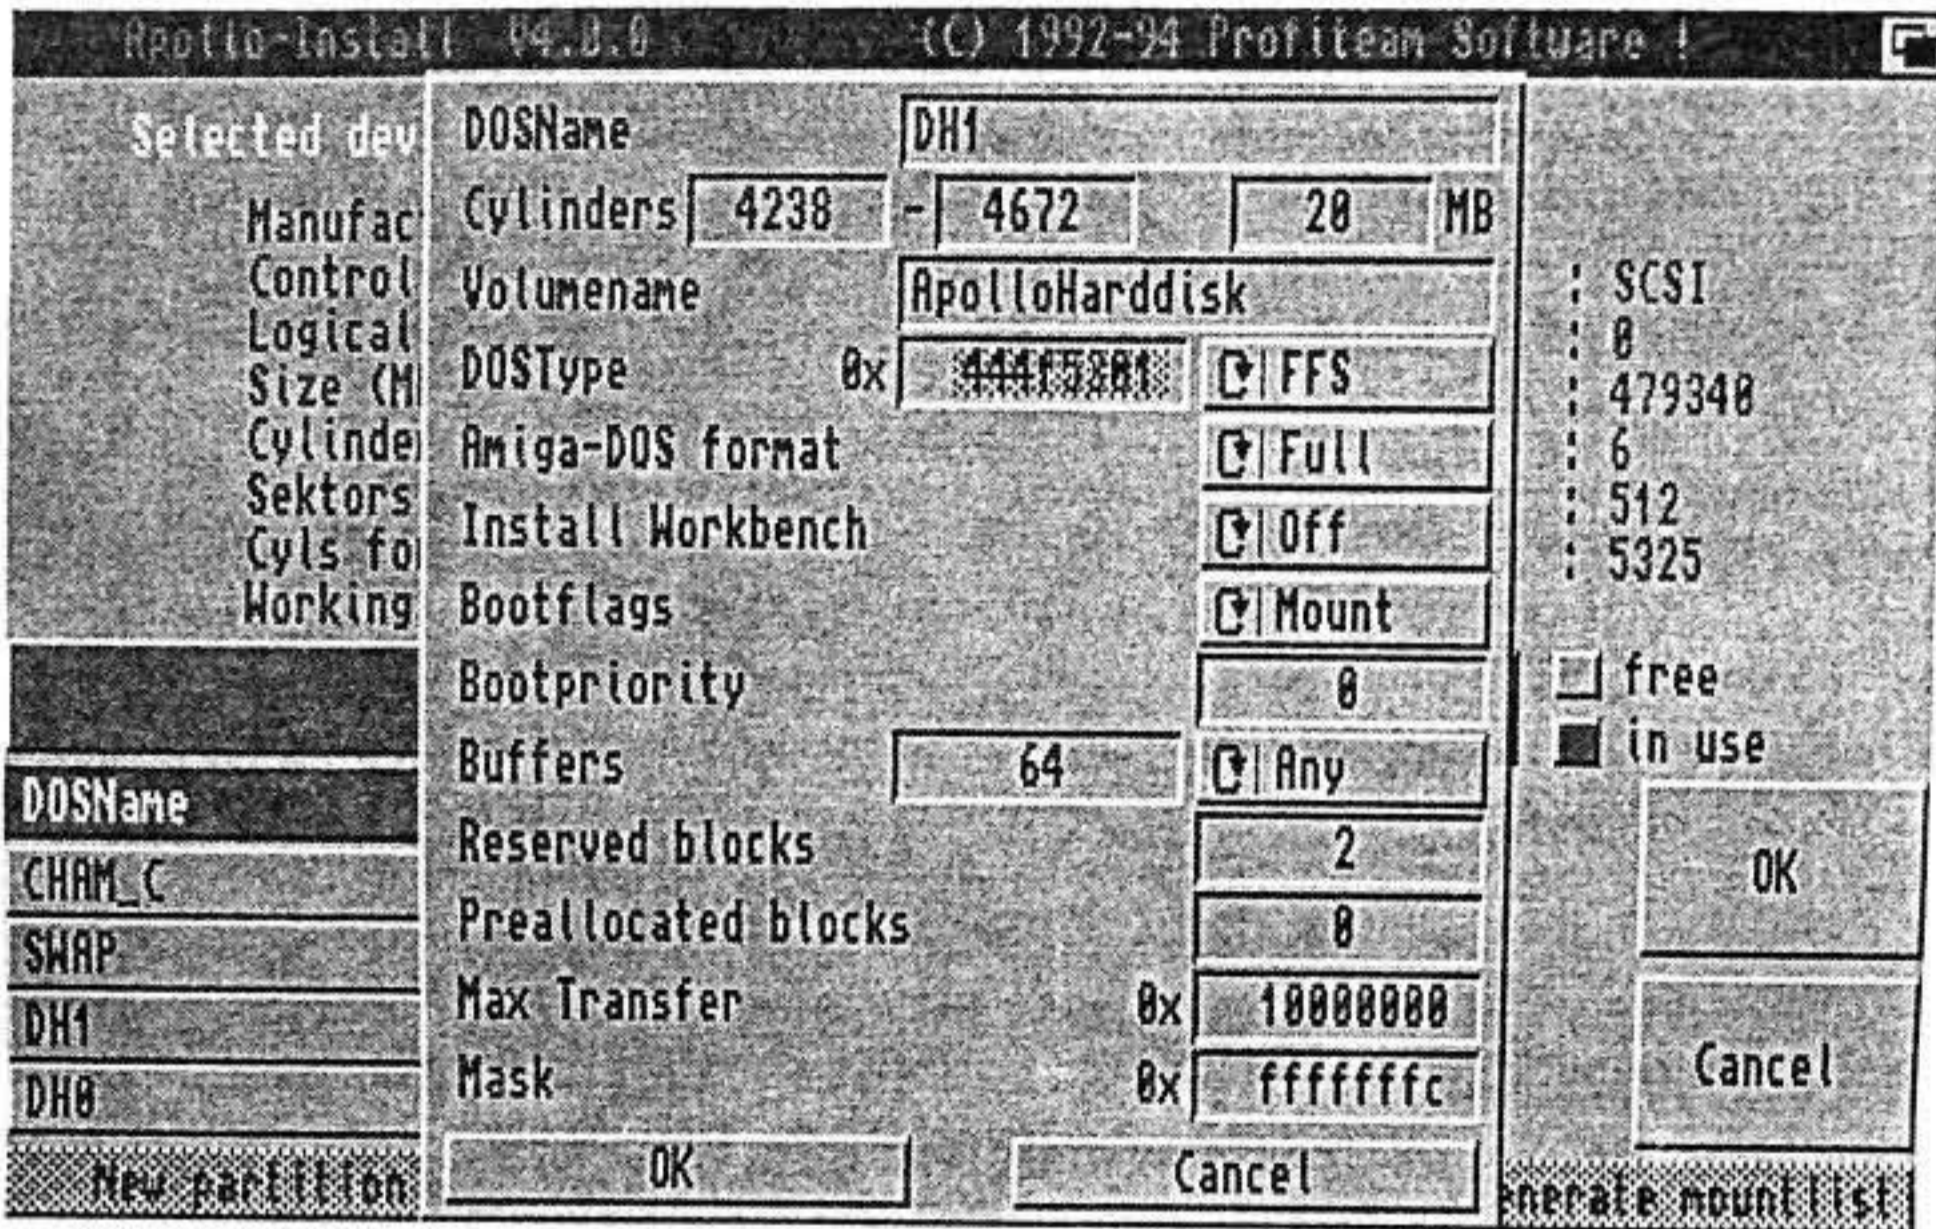

Figure 6: New partition / Edit partition
- Click on the New partition gadget to create a new one. If the disk still holds any free space, a big window opens (see figure 6), in which you can configure all parameters of the partition to create. Every change of the entry fields and switches is checked and immediately rejected in case of containing an illegal value or state. The adjustable parameters are:
the same big window opens as already described above in the explanation of the creation of a new partition (see figure 6). See there for details.